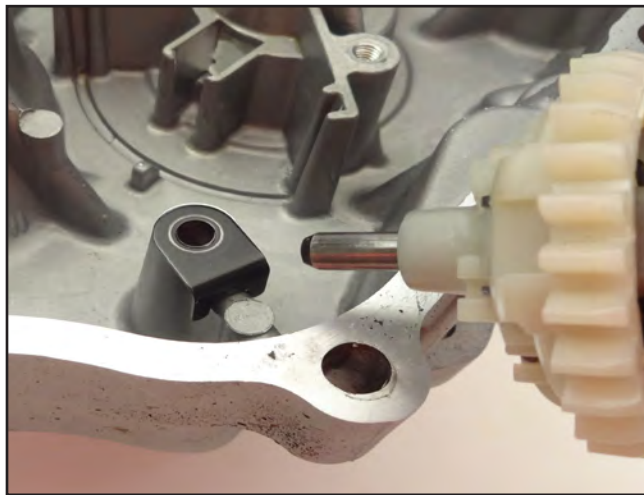

Figure 14
3. End play clearance specification. Governor end play to 0.002-0.013 in. (0.05-0.35 mm) (Figure 14).